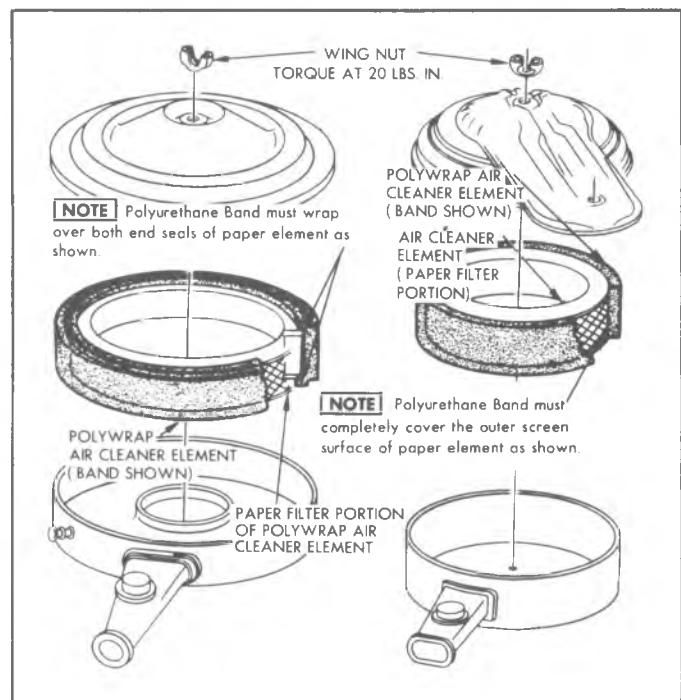

Fig. 9A—Installing the Polyurethane Band
7. Install the polyurethane band around the outer surface of the paper filter (Fig. 9A).